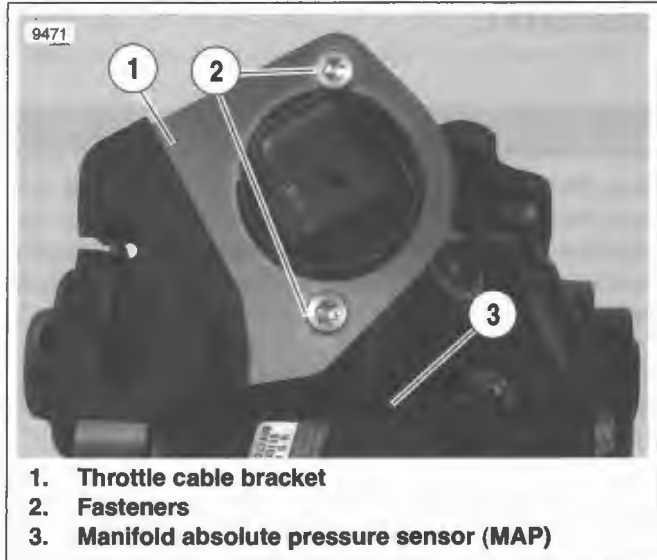

Figure 4-27. Throttle Cable Bracket Location
2. See Figure 4-27. Remove two fasteners (2) to release throttle cable bracket (1) from induction module. Discard fasteners.
4. See Figure 4-27. Install new throttle cable bracket fasteners (2). Tighten to 20-35 in-lbs (2.3-4.0 Nm).